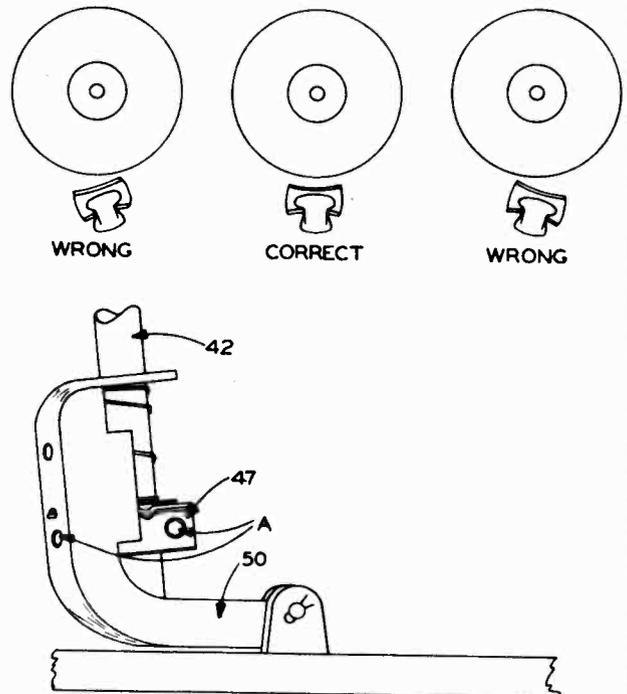

Fig. 7
The Record Selector Post should be adjusted so that the curve of the shelf matches the curve of the record. See Fig. 7.
3. With a No. 8 Bristol wrench in each of the set screws (point A, Fig. 7), alternately loosen one and tighten the other until the Record Selector post angle is correct. Be sure that both set screws are tight at the completion of this adjustment.
4. Knife edge of Raising Lever (Illus. 33, Fig. 7).
1. Teeth of Main Cam Actuating Gear (Illus. 43, Fig. 7).
2. Track of Main Cam Gear (Illus. 42, Fig. 7).
4. Raising lever Bracket bearing surfaces (Illus. 33, Fig. 7).